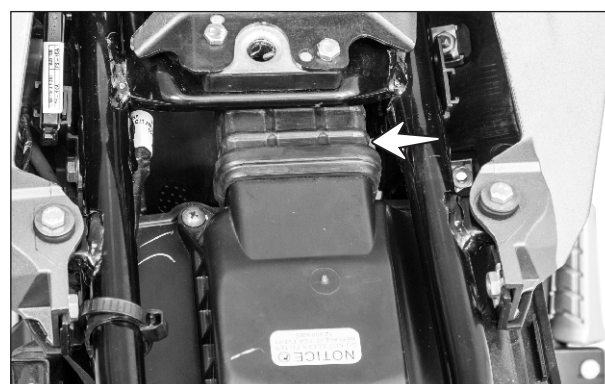

Fig. 2.43
- Disconnect the tube inlet from the cover filter element. (Fig. 2.43)